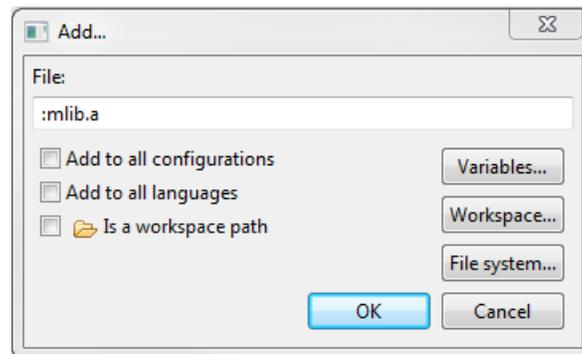

Figure 1-23. Library file inclusion
17. Type the following into the File text box (see Figure 1-23): :mlib.a